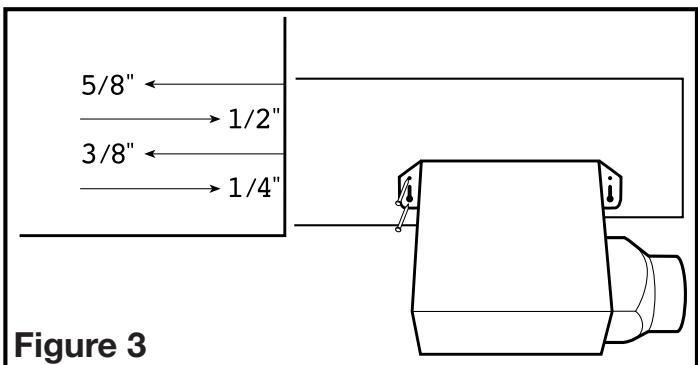
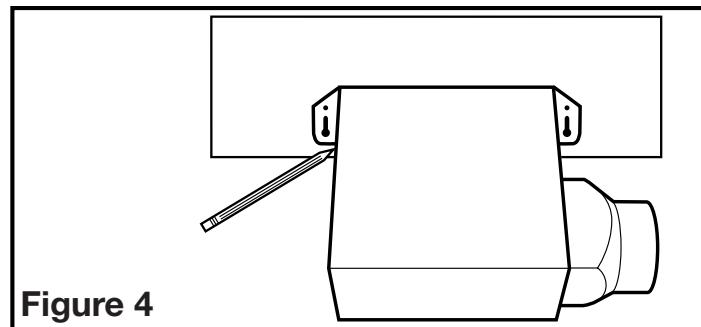

Figure 3
Figure 4
1. Using the gauge on the fan's housing (**Figure 3**), line up housing so that it will be flush with the finished ceiling or wall. Position the fan so that the tabs rest flat against the joist or stud and secure with four nails (not provided) to ensure proper installation.
1. Position housing against the joist or stud and trace an outline of the housing onto the ceiling/wall material (**Figure 4**). Set housing aside and cut opening, being careful not to cut or damage any electrical or other hidden utilities. Place housing next to the joist or stud and insure that it is flush with the finished ceiling. Secure with four nails (not provided) to ensure proper installation (**Figure 3**).
1. Connect the ducting to the fan's duct collar (**Figure 4**). Secure in place using tape or screw clamp. Always duct the fan to the outside through a wall or roof cap.